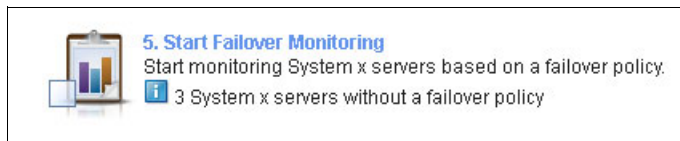

Figure 6-54 Select to start failover monitoring
- From the main Configurations Pattern window, choose **Start Failover Monitoring** as shown in Figure 6-54.